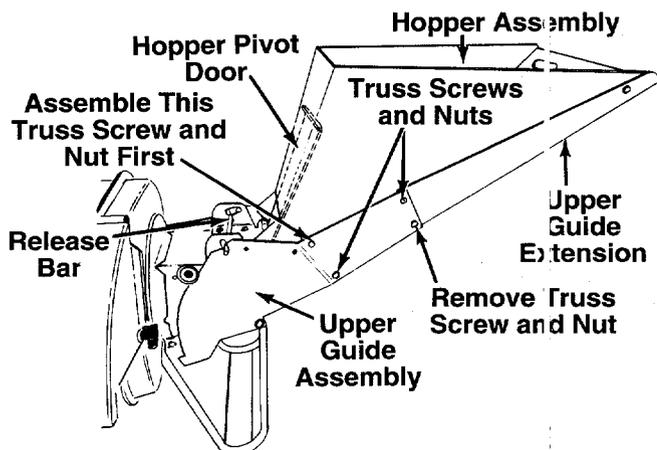

FIGURE 4.
Your shredder has been shipped with the upper guide extension attached to the hopper assembly. See figure 4. Attach the hopper assembly to the upper guide assembly as follows. Be certain to place heads of all truss machine screws **inside** of hopper assembly.
- ← 1. Remove one truss machine screw and nut from each side of hopper assembly as shown in figure 4. **Push hopper pivot door down inside lower part of hopper** as you place hopper assembly (both pieces) **inside** upper guide assembly. Replace truss screws and nuts just removed, using the front upper hole in assembly as shown in figure 4, one on each side. Tighten finger tight only.